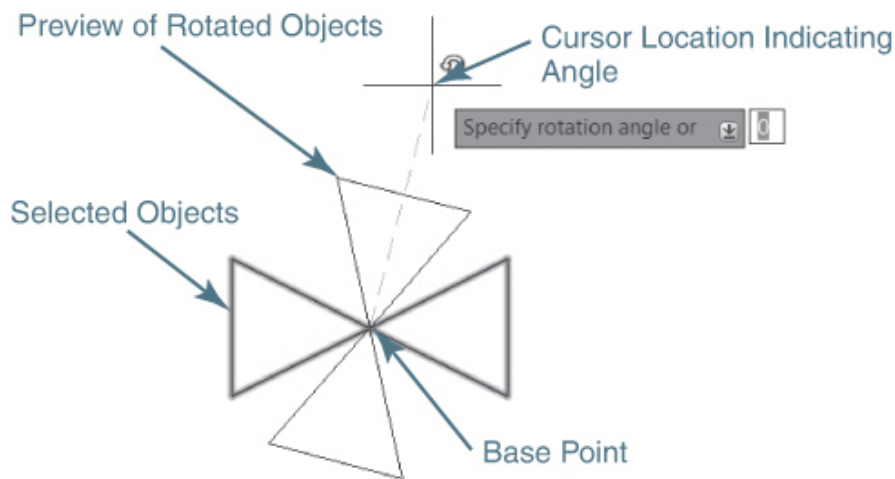

Figure 7-33
AutoCAD provides a preview of the rotation, as shown in Figure 7-33.
- 3 Snap to the intersection of both triangles using the **Intersection** object snap, as shown in Figure 7-33. AutoCAD prompts *Specify rotation angle or* ↓.
- 4** Rotate the triangles to any angle using a cursor pick point, as shown in Figure 7-33.
- 7** Snap to the intersection of both triangles using the **Intersection** object snap, as shown in Figure 7-33. AutoCAD prompts *Specify rotation angle or ↓*.
- 11** Snap to the intersection of both triangles using the **Intersection** object snap, as shown in Figure 7-33. AutoCAD prompts *Specify rotation angle or ↓*.